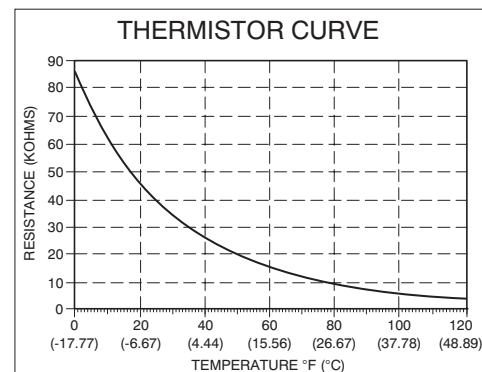

Fig. 13 – Resistance vs Temperature Chart
Thermistors are electronic devices which sense temperature. As the temperature increases, the resistance decreases. Thermistors are used to sense outdoor air (OAT) and coil temperature (OCT). Refer to Fig. 13 for resistance values versus temperature.
**Thermistor Curve:** The resistance vs. temperature chart shown in Fig. 13 enables the technician to check the outdoor air and outdoor coil thermistors for proper resistance. Unplug the thermistor assembly from the circuit board and measure resistance across each thermistor. For example, if the outdoor temperature is  $60^{\circ}\text{F}$  ( $15.56^{\circ}\text{C}$ ), the resistance reading across the outdoor air thermistor should be around 16,000 Ohms.